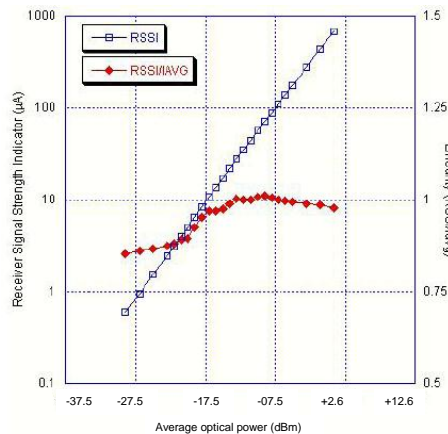

Figure 12 - Average monitor current and RSSI voltage
- ❑ RSSI (Receiver Signal Strength Indicator) - Register 68-69h in table 00h: the DC/low-frequency output I_{AVG} sources a current proportional to the average input photocurrent. The I_{avg} source is internally loaded by a 2KΩ resistor. This resistor could be over driven by an external one attached to the RSSI pin and GND. The resulting voltage at the RSSI output pin should be kept below 2.0 V to maintain linearity. This output can be used to monitor the optical power incident on the photodiode. It may be left open if not used. The upper corner frequency of the output RSSI is equal to the roll-on frequency f_{low} of the high-speed data path (Figure 12 - & Receiver characteristics table).
- ❑ Signal Detect (SD) – Pin 3 and bit 2 @ 6Eh in table 00h: this Status bit indicates if the receiver optical power is below threshold or not. If this status bit is asserted is the RSSI value is below a predefined threshold one.